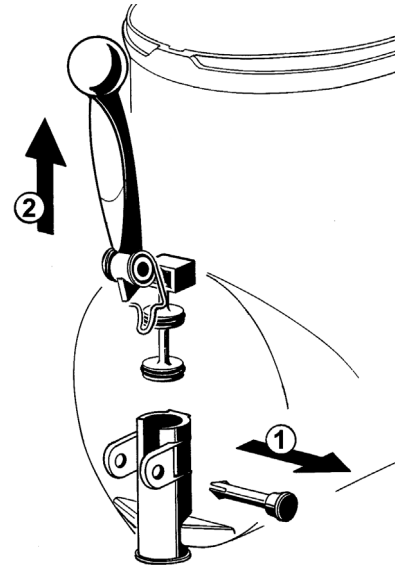

figure 12
the handle. (see figure 12).
- 2 Assemble the faucet by reversing the disassembly steps (see figure 12)